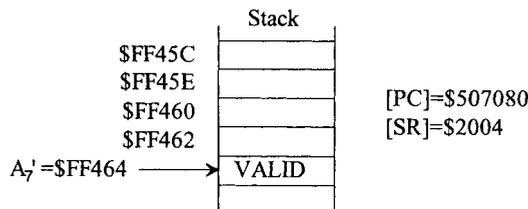

FIGURE P10.36
- 10.36 Assume the 68000 stack and register values shown in Figure P10.36 before occurrence of an interrupt. If an external device requests an interrupt by asserting the $\overline{\text{IPL2}}$, $\overline{\text{IPL1}}$, and $\overline{\text{IPL0}}$ pins with the value 000_2 , determine the contents of A7' and SR during interrupt and after execution of RTE at the end of the service routine of the interrupt. Draw the memory layouts and show where A7' points to and the stack contents during and after interrupt. Assume that the stack is not used by the service routine.